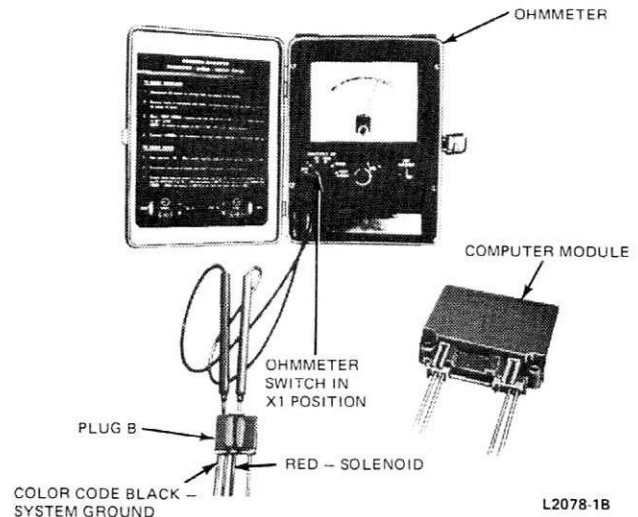

FIG. 11 Testing Solenoid Circuit
1. Remove plug B from the computer module (Fig. 11).